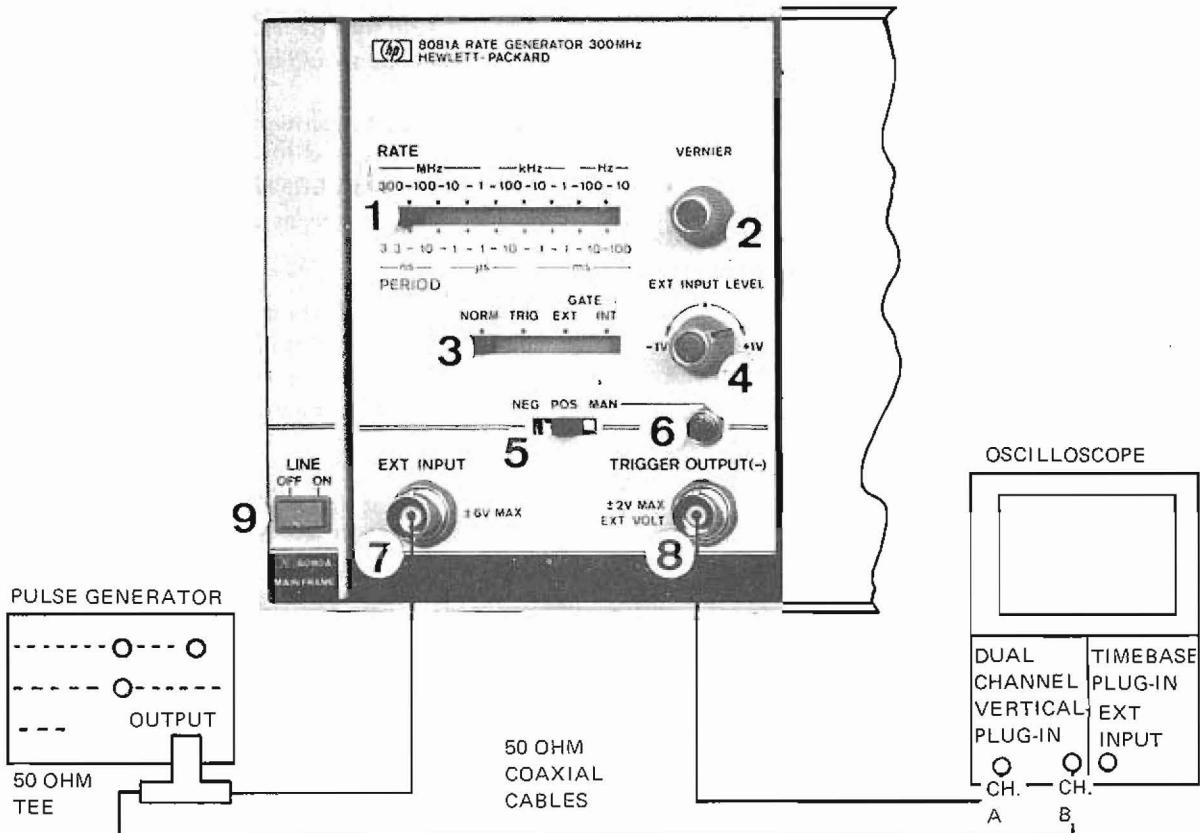

Figure 3-3. Suggested Equipment Setup for Operating Instructions
3-22 A suggested equipment setup for the Operating Instructions is shown in figure 3-3. The 8081A Rate Generator must be mounted in an 8080A Mainframe. The following procedure is designed to give a full understanding of the function of each of the 8081A operating modes.
3-29 In TRIGGER mode, the repetition rate of the output is independent of the internal repetition rate generator. The output is, in fact, a pulse-shaped version of the input signal. The input can be either external via the EXT INPUT ⑦ or local using the MAN pushbutton ⑥. For external triggering, an external signal source is required. The test set is as shown in figure 3-3. The changes in control settings are as follows.